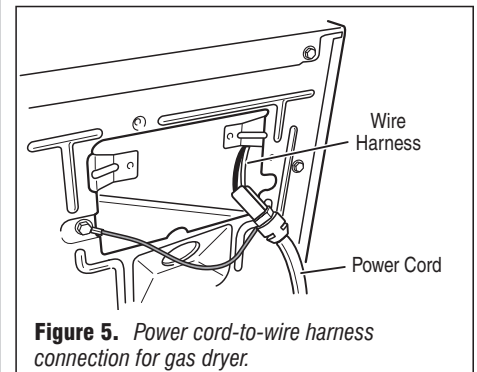
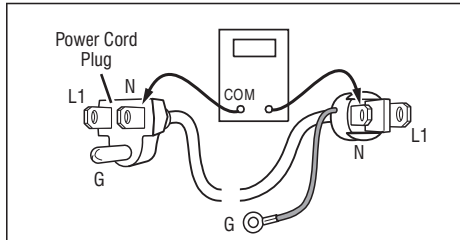

Figure 5. Power cord-to-wire harness connection for gas dryer.
Figure 6. Power cord terminals, gas dryer.
3. Check that the power cord is firmly connected to the dryer's wire harness. See figure 5.
5. With an ohmmeter, check for continuity between the neutral (N) terminal of the plug and P8-3 (white wire) on the machine control board. The left-hand side of figure 6 shows the position of the neutral terminal (N) on the power cord plug. Also see figure 18, page 10.
- ➔ If there is no continuity, disconnect the white wire of the harness from the power cord at the location illustrated in figure 5, page 4. Test the continuity of the power cord neutral wire as illustrated in figure 6. If an open circuit is found, replace the power cord. Otherwise, go to step 6.
- ➔ If there is no continuity, check the continuity of the power cord in a similar way to that illustrated in figure 6, but for power cord's L1 wire.